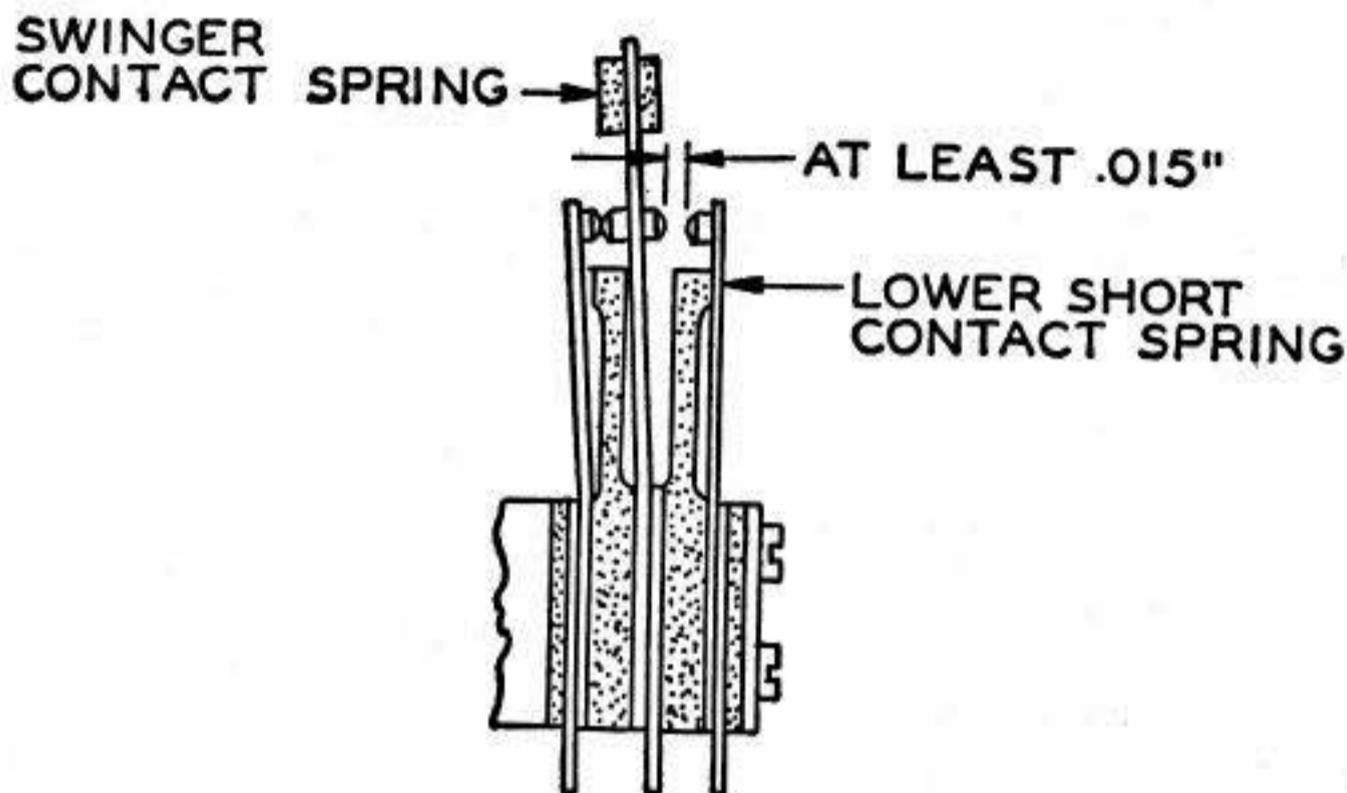

Fig 41
- (d) There should be at least .015" clearance between the contacts of the swinger and the contacts of the lower spring. To adjust, refine (b) and (c) above. **Fig 41**